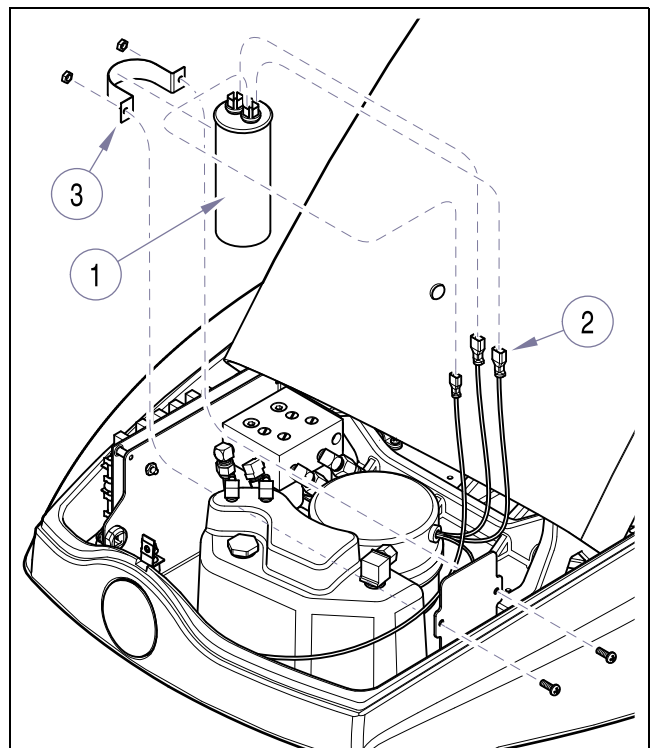

Figure 4-11. Capacitor, Motor Pump
- (4) Discharge capacitor (1, Fig. 4-11).
- (1) Insert capacitor (1, Fig. 4-11) in mounting bracket (3) and tighten bracket or tighten mounting screw.
- (2) Connect electrical leads (2).
- (3) Install hydraulic cover, plug chair into outlet, and check operation.